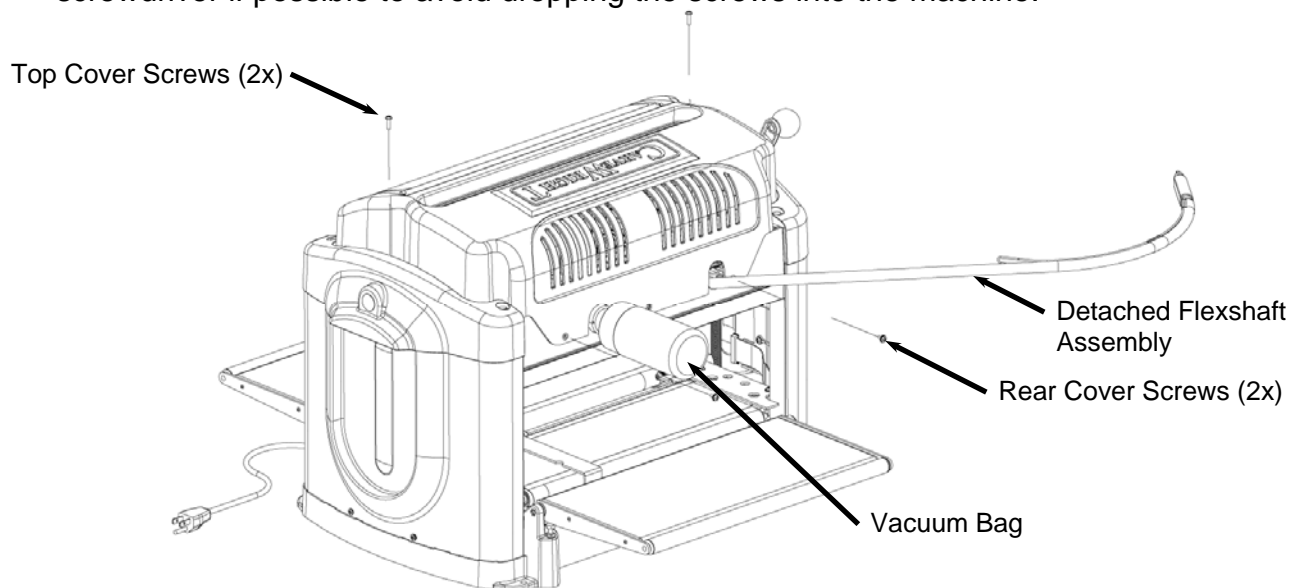

FIGURE 4: EXPLODED VIEW OF THE COVER SCREWS
- Remove the screws securing the cover:** Remove the four cover screws as shown in Figure 4 with the #2 Phillips screwdriver. Use a magnetic tipped screwdriver if possible to avoid dropping the screws into the machine.
- f. Replace the four screws as shown in Figure 4. The two long screws go in the vertical locations.